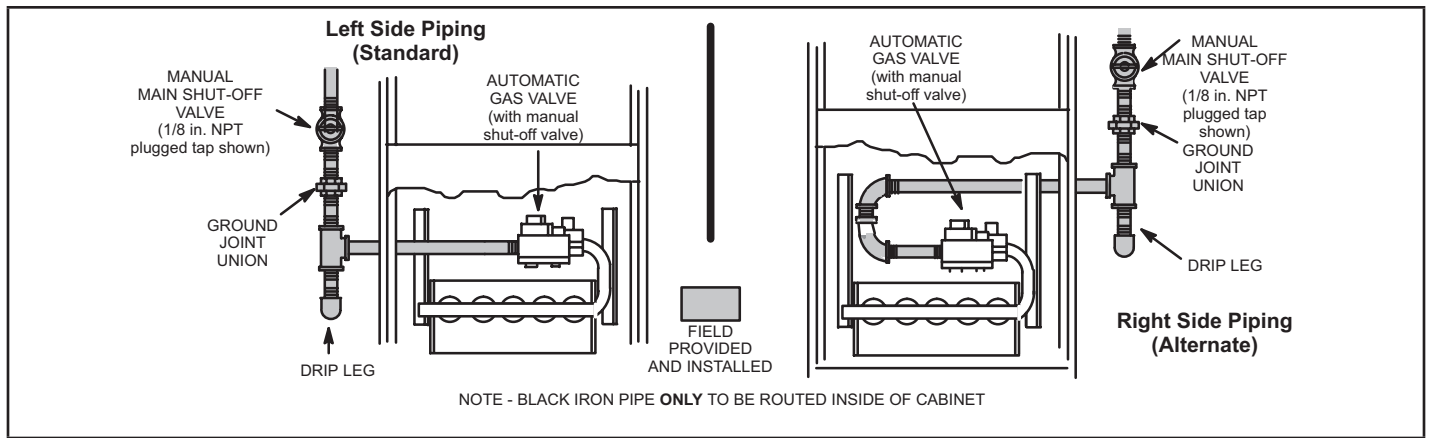

FIGURE 55
- 1 - Gas piping may be routed into the unit through either the left- or right-hand side. Supply piping enters into the gas valve from the side of the valve as shown in FIGURE 55. The maximum torque is 800 in lbs and minimum torque is 350 in lbs when attaching the gas piping to the gas valve.
- 3 - Gas piping must not run in or through air ducts, clothes chutes, chimneys or gas vents, dumb waiters or elevator shafts. Center gas line through piping hole. Gas line should not touch side of unit. See FIGURE 55.